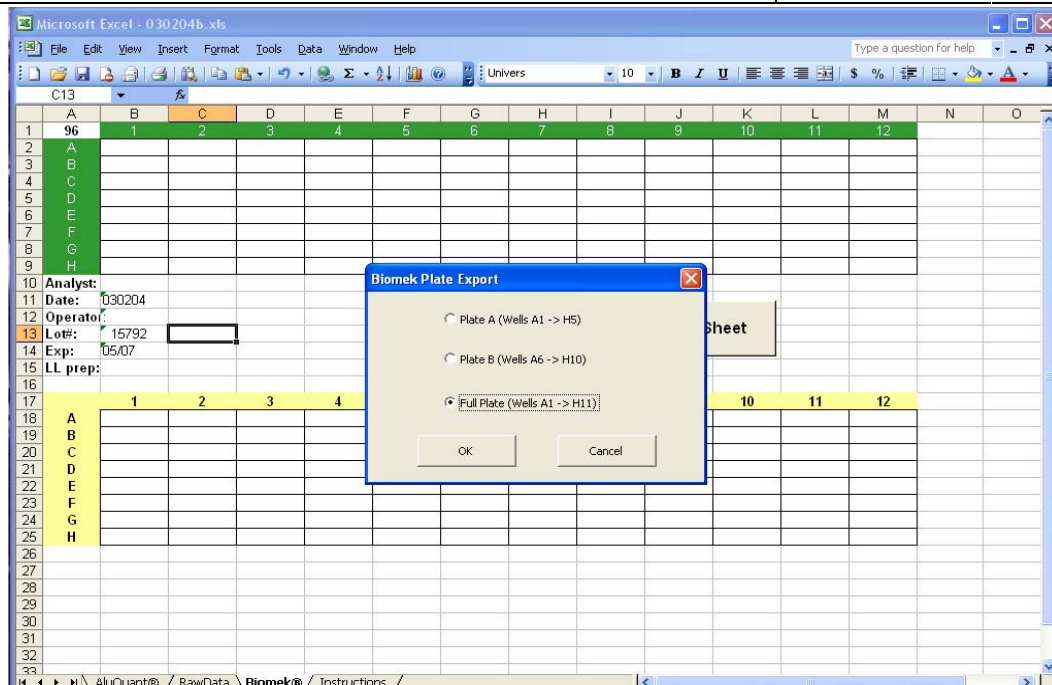

Figure 12. Selecting the plate format for data transfer
4.5.37 Click on “Import Data From AluQuant® Sheet” box. The window shown in Figure 12 will pop up. Select the full plate (wells A1→ H11), then select OK. The quantitation data will transfer to the BioMek spreadsheet.